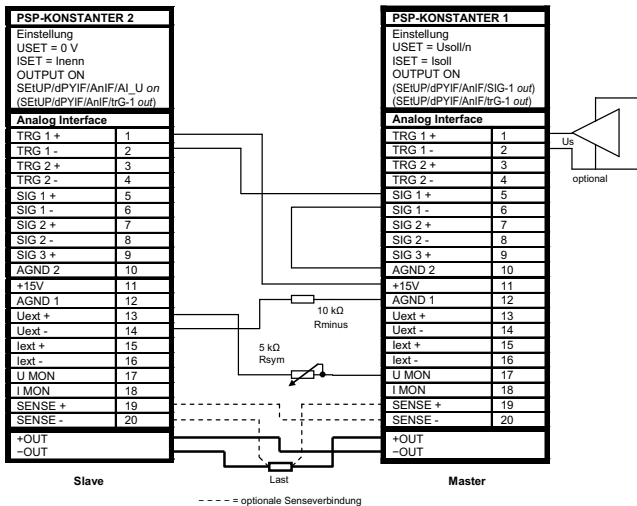

Figure 7.10.2 Wiring for Master-Slave Series Connection
- Connect master and slave devices as shown in figure 7.10.2.
- In order to assure that the slaves' OUTPUT ON status is activated along with the master's OUTPUT ON status via the signal output and trigger input circuit as shown in figure 7.10.2, "SETUP/dPYIF/AnIF/SiG-(x1) out" must be selected at the master and "SETUP/dPYIF/AnIF/trG-(x2) out" must be selected at the slaves, (x1) and (x2) in example 1. The master's OUTPUT ON status can be optionally controlled via the trigger input – setting at the master: "SETUP/dPYIF/AnIF/trG-(x3) out", (x3) in example 1.